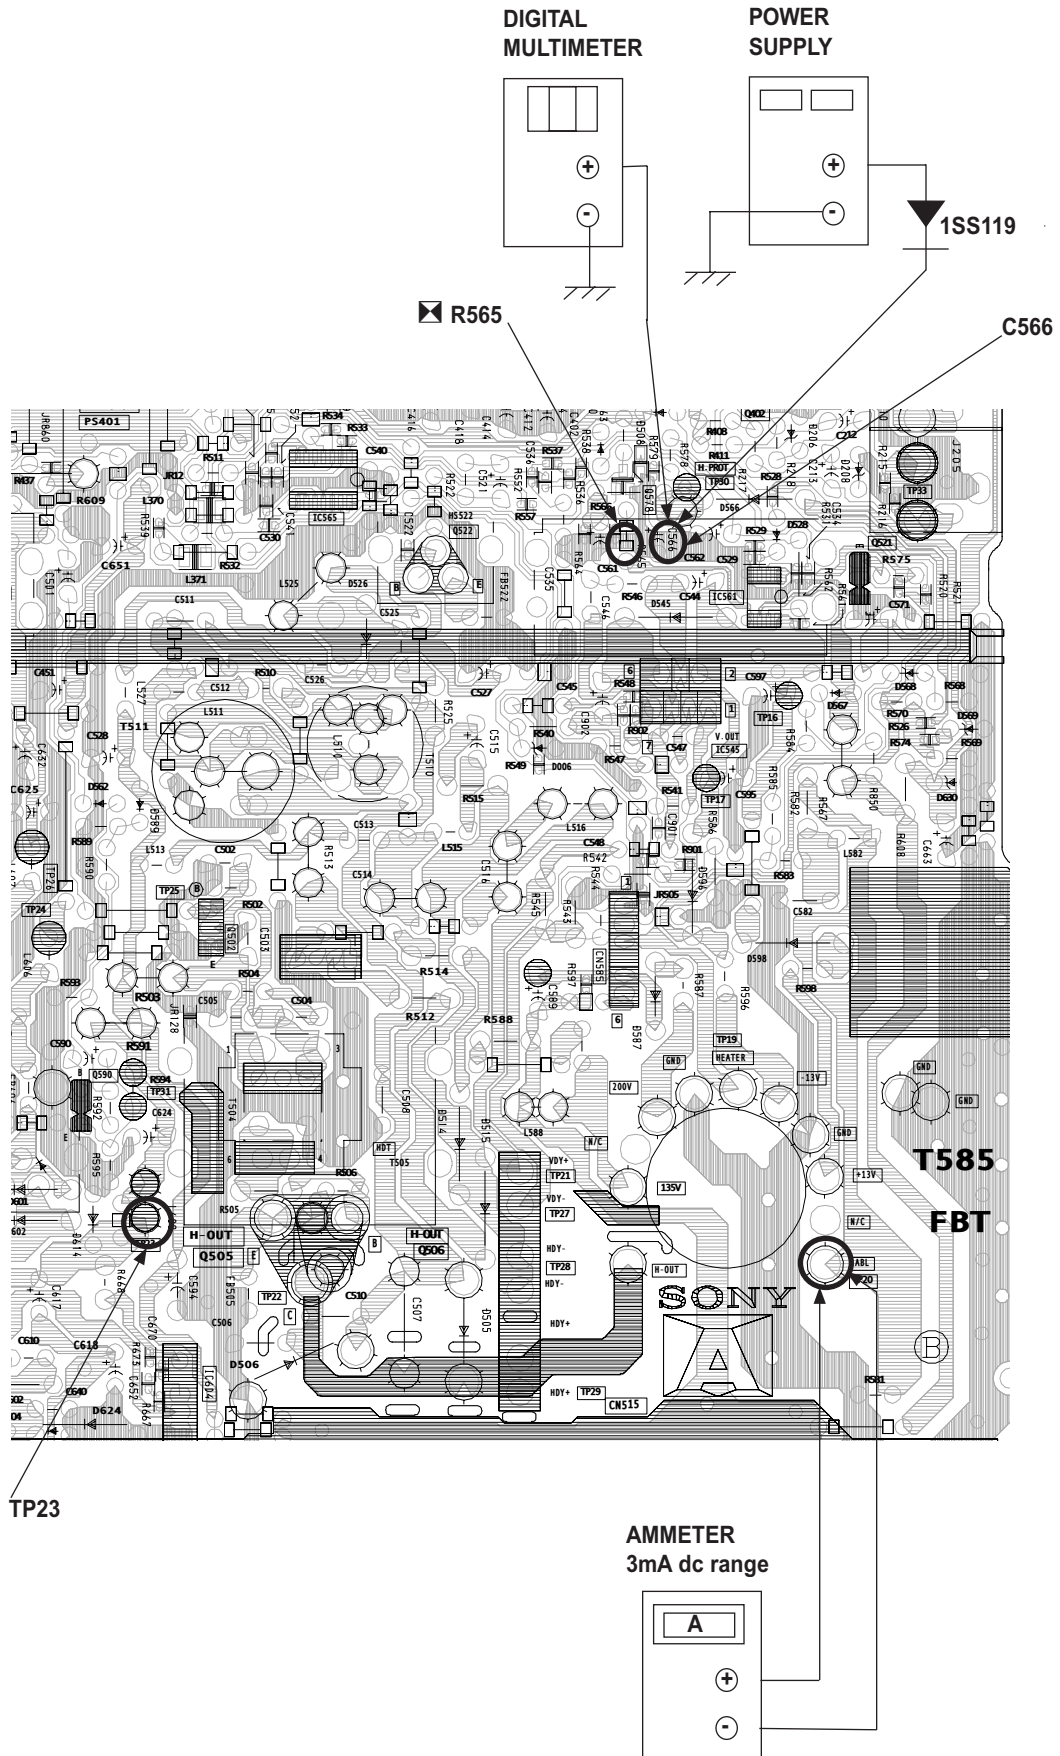

Figure 1
- Connect the current meter between Pin 11 of the FBT (T585) and the PWB land where Pin 11 would normally attach (See Figure 1 on the next page).
- Connect the digital voltmeter and the DC power supply via Diode 1SS119 to C566 (+) and ground (See Figure 1 on next page).